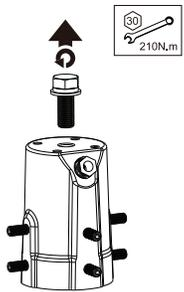

Fig. 14
1. Remove provided slip fitter mounting bolt (Fig. 14).